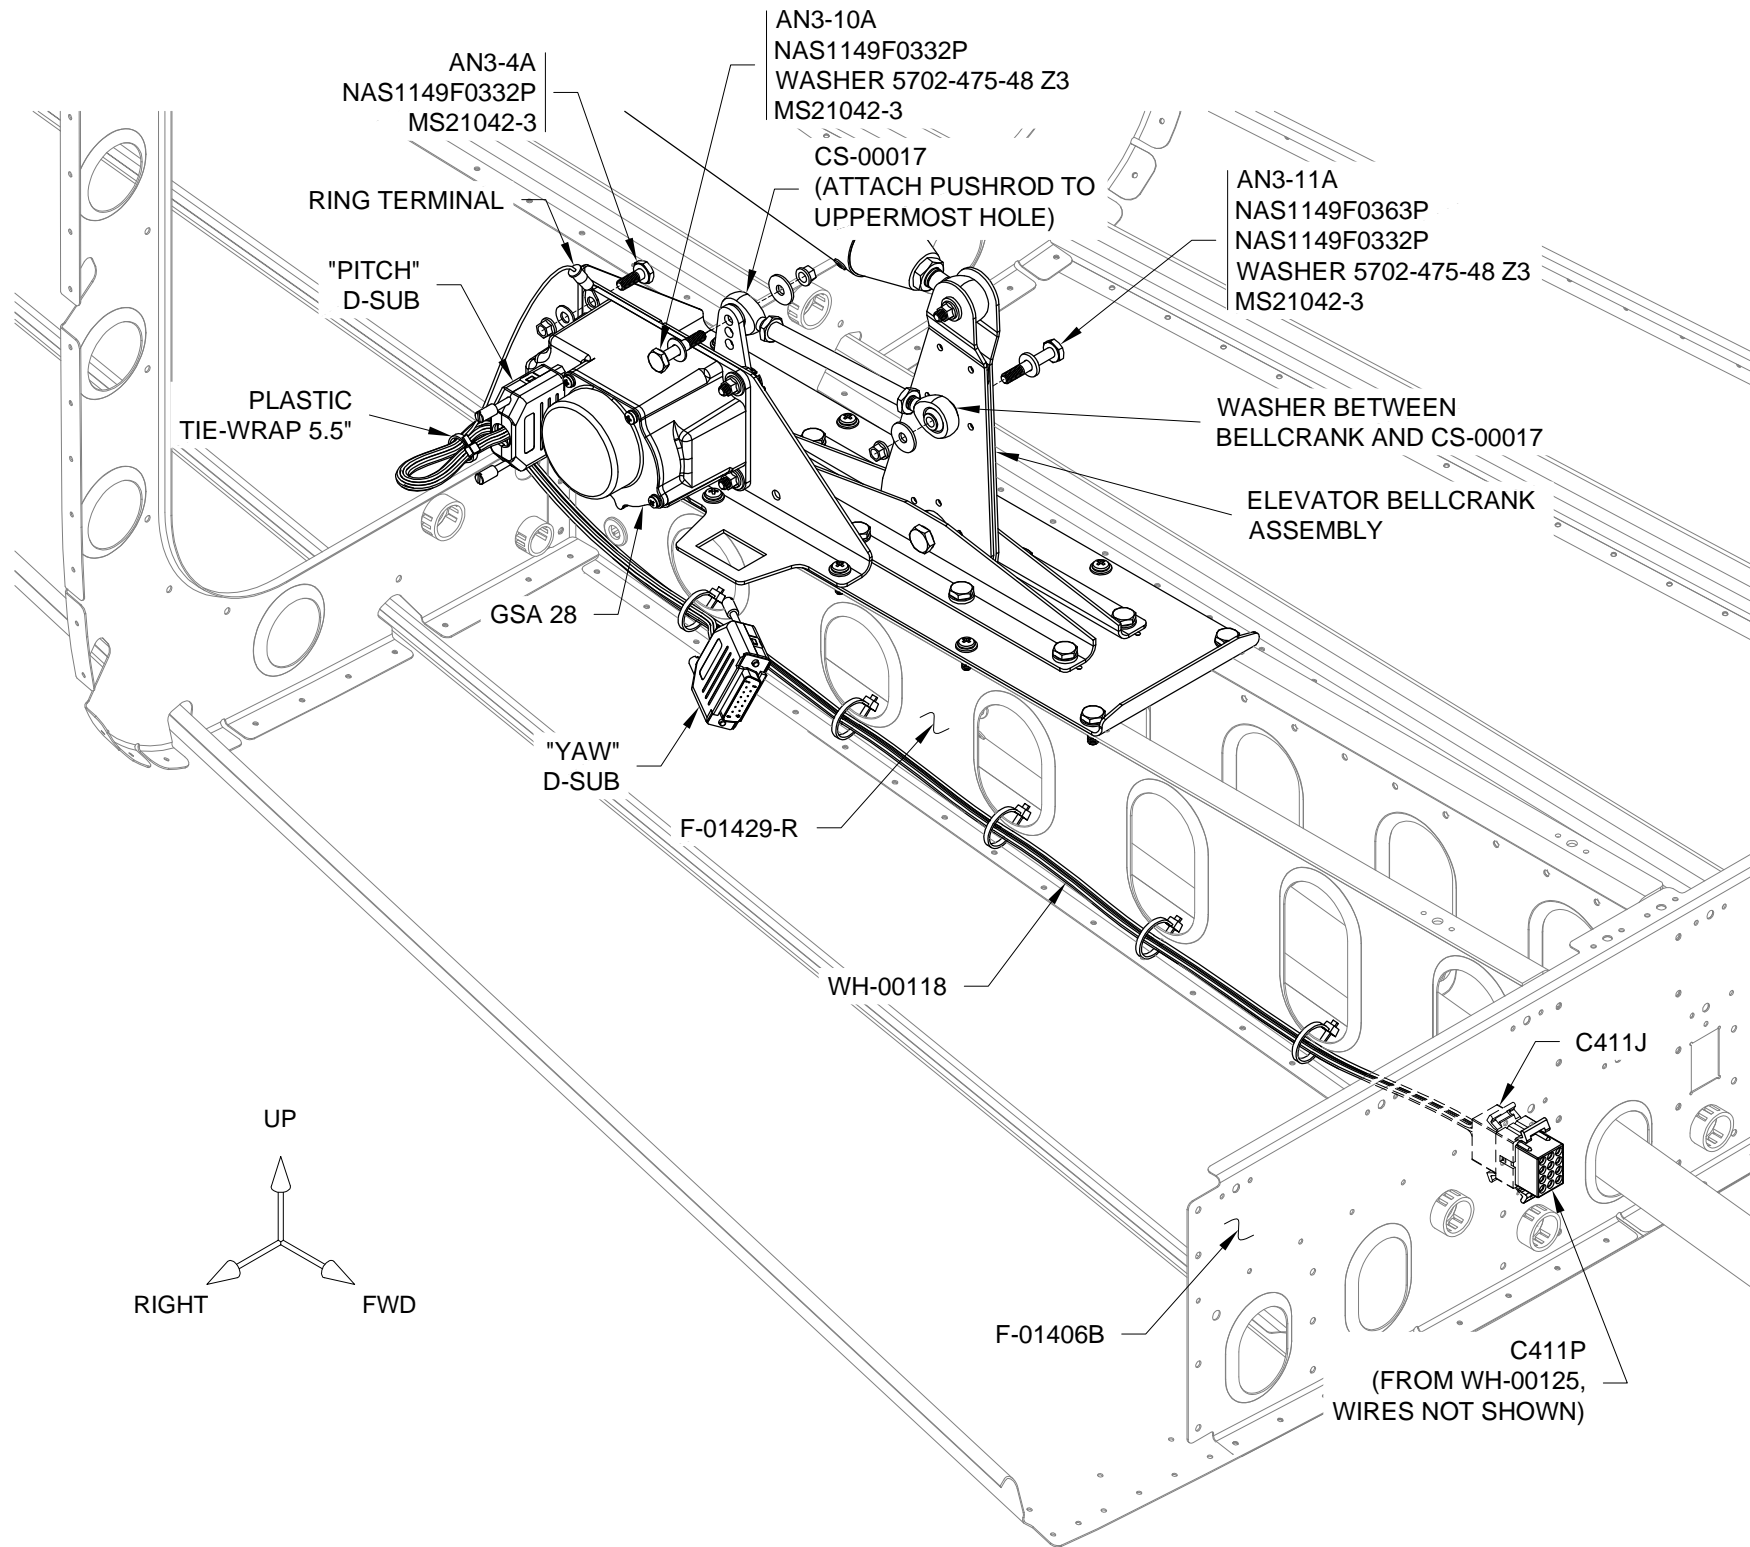

FIGURE 1: CONNECT PITCH SERVO
Step 3: Attach the CS-00017 Pitch Servo Pushrod Assembly to the GSA 28 Smart Autopilot Servo and to the Elevator Bellcrank Assembly as shown in Figure 1. Before installation, verify that the correct pushrod is being used by comparing the pushrod length with Figure 2 on Page 56-02.